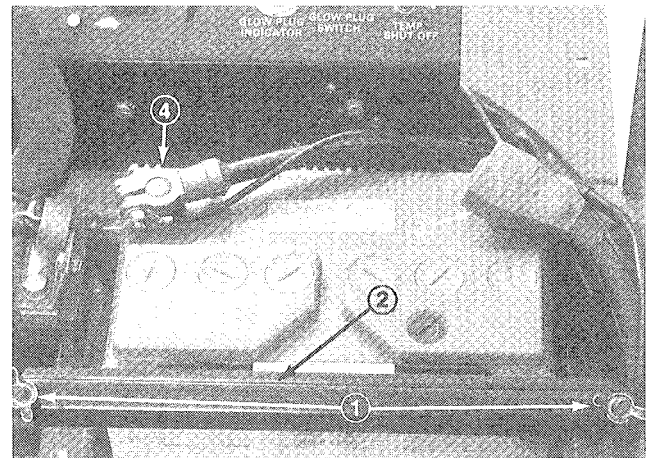

Figure 2
2. Remove two wing nuts and hold down strap that secures battery (Fig. 2). Lift battery out of chassis. Keep wing nuts and hold down strap in safe place for later use.
1. Install battery and secure with hold down strap and wing nuts (Fig. 2). Remove tape over ends of each cable.
2. Slide the red, positive battery cable (Fig. 2) onto positive battery post and tighten nut securely.
3. Slide the black, negative battery cable (Fig. 2) onto negative battery post and tighten nut securely.
4. Coat both battery connections with either Grafo 112X (skin-over) grease, Toro Part No. 505-47, petroleum jelly or light grease to prevent corrosion and slide rubber boot over positive terminal (Fig. 2).